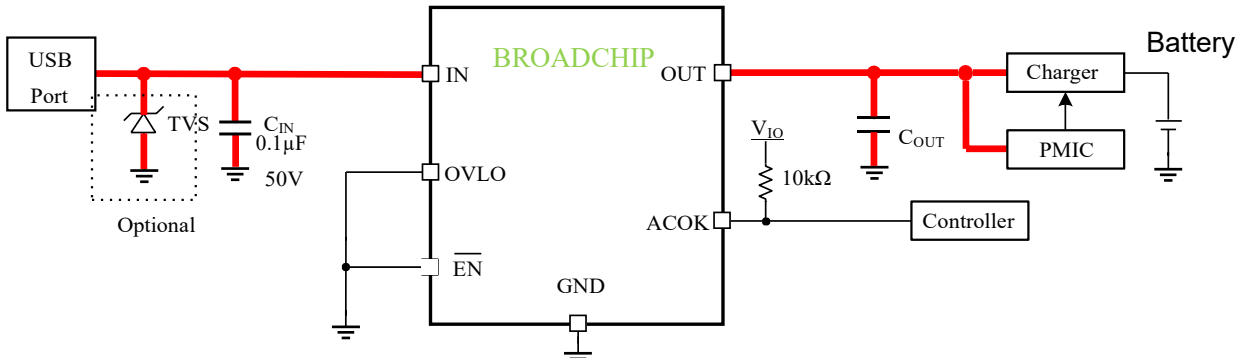

Figure 4 BCT7915 typical application circuit(using default OVP threshold)
3. Red bold paths on figure 4 and 5 are power lines that will flow large current, please route them on PCB as straight, wide and short as possible.